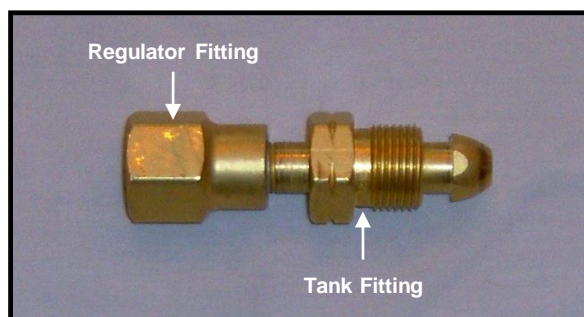
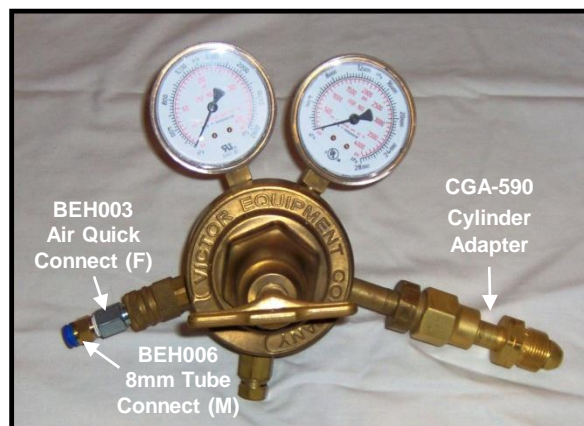

Figure 1
Figure 2
Important Note: Compressed Air Cylinders are supplied with a Female left-hand thread Tank fitting (CGA-590). Pressure Regulator BEREG02 supplied in the Blowing Head Equipment Kit has a Male right-hand threaded Nut (CGA-580). A CGA-590 Industrial Air Cylinder-to-CGA-580 Nitrogen Regulator Cylinder Adapter is required to connect the Pressure Regulators to the Tank fitting. One (1) Cylinder Adapter is required for each Pressure Regulator used. **See Fig. 1 and Fig. 2.**